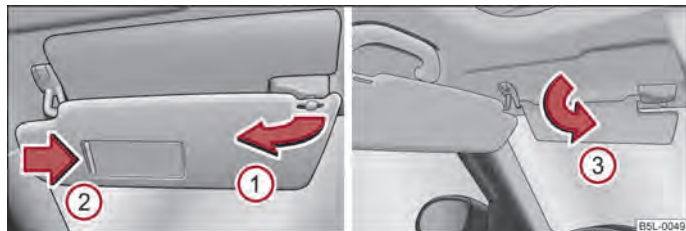

Fig. 36 Sun visor: Swivelling out/double sun visor
You can pull the sun visor for the driver or front passenger out of the fixture and swivel it toward the door in the direction of the arrow ① ⇒ fig. 36.